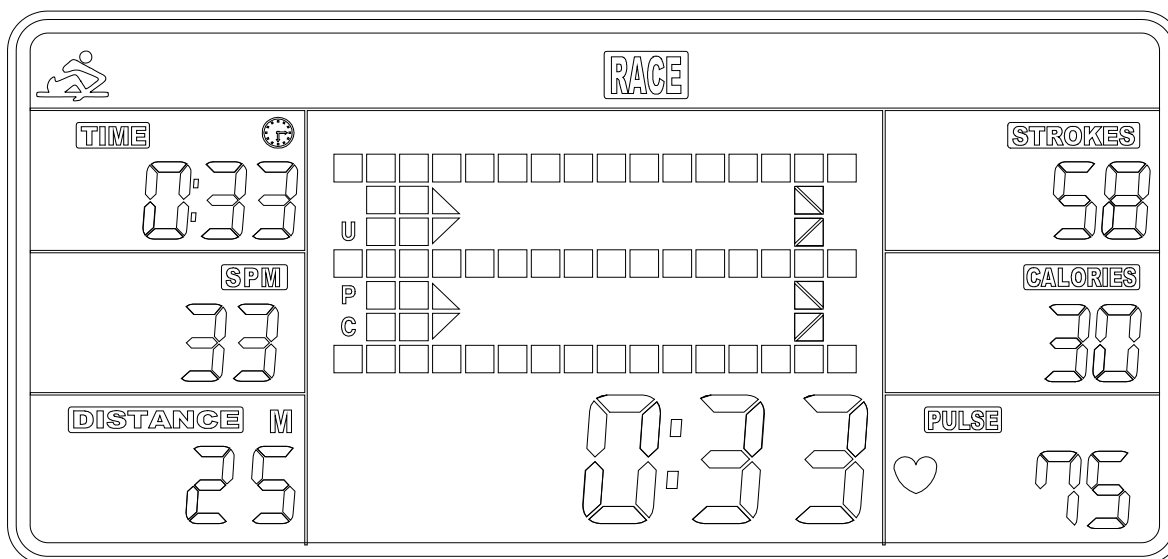
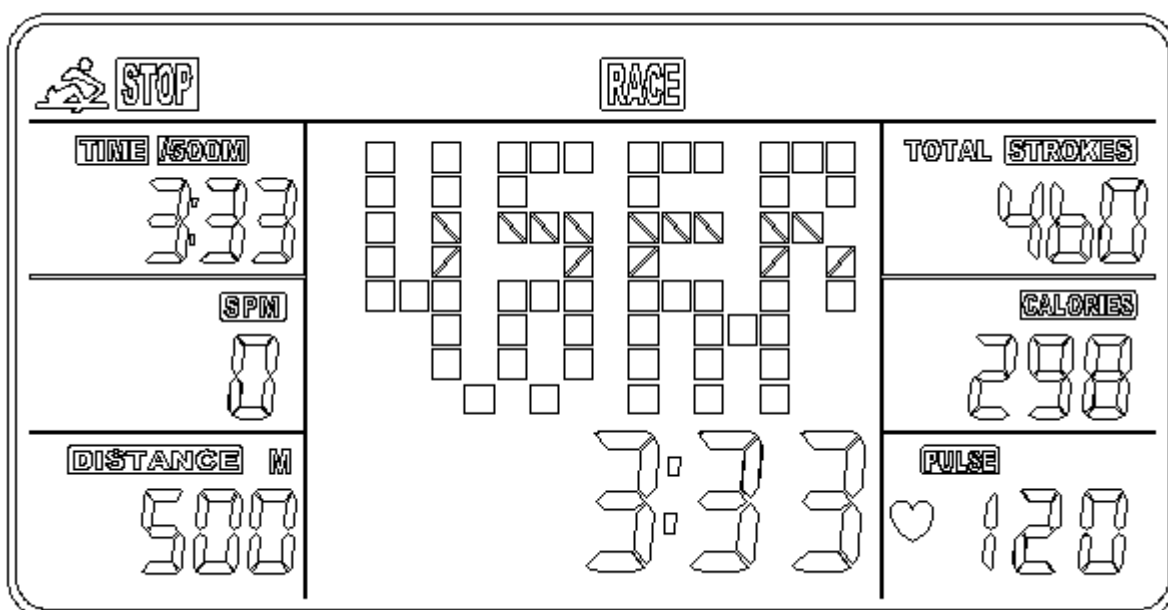

Fig. 6
Fig. 7
- a. Press START button to start and STOP icon will disappear. USER and PC will display in the matrix (Fig. 6). The meter will stop when either the user or meter has reached the race distance that was set. Then, the matrix displays “PC WIN” or “USER WIN” (Fig. 7).